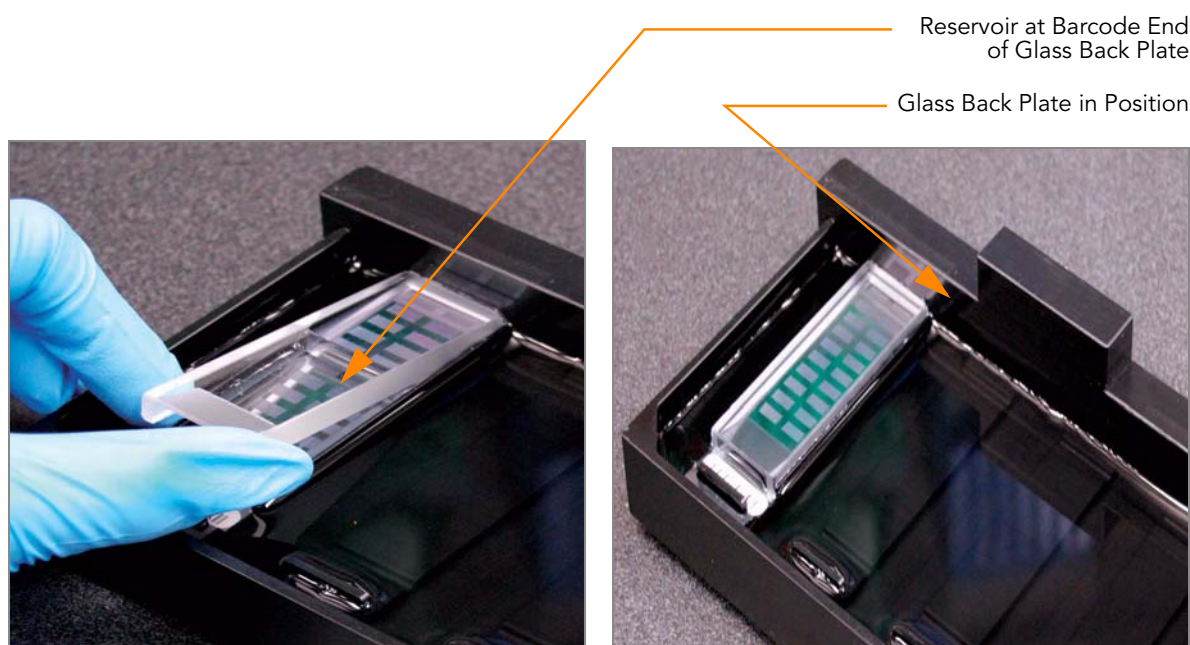

Figure 151 Placing Glass Back Plate onto BeadChip
7. Place a clean glass back plate on top of the clear spacer covering each BeadChip. The plate reservoir should be at the barcode end of the BeadChip, facing inward to create a reservoir against the BeadChip surface (Figure 151).